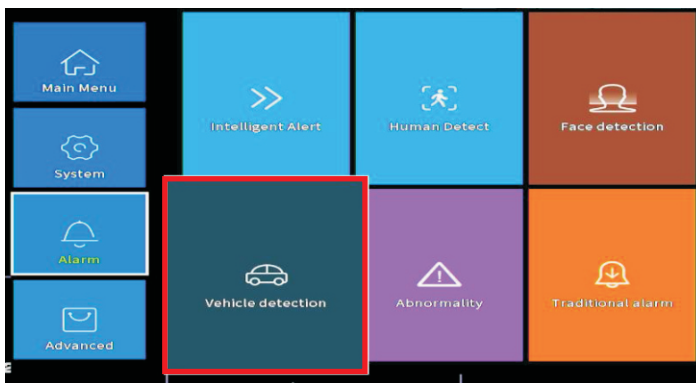

Figure 3. Vehicle Detection
3. Select and click "vehicle detection" menu as seen on Figure 3.